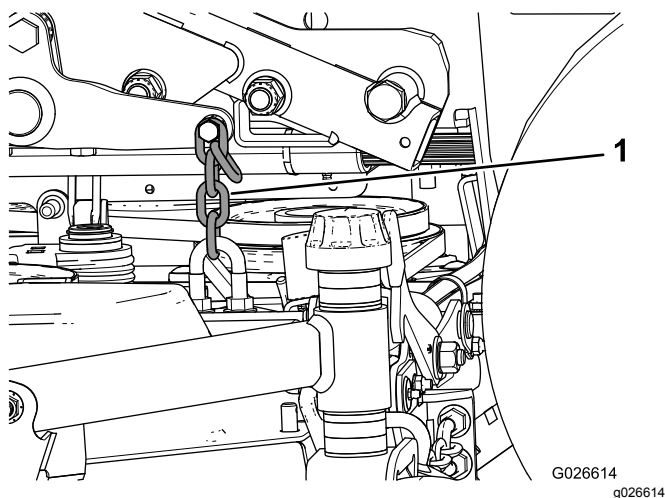

Figure 18
- B. Secure the left, rear lift chain to the **outboard** side of the lift bracket with a bolt and 2 nuts (Figure 18).